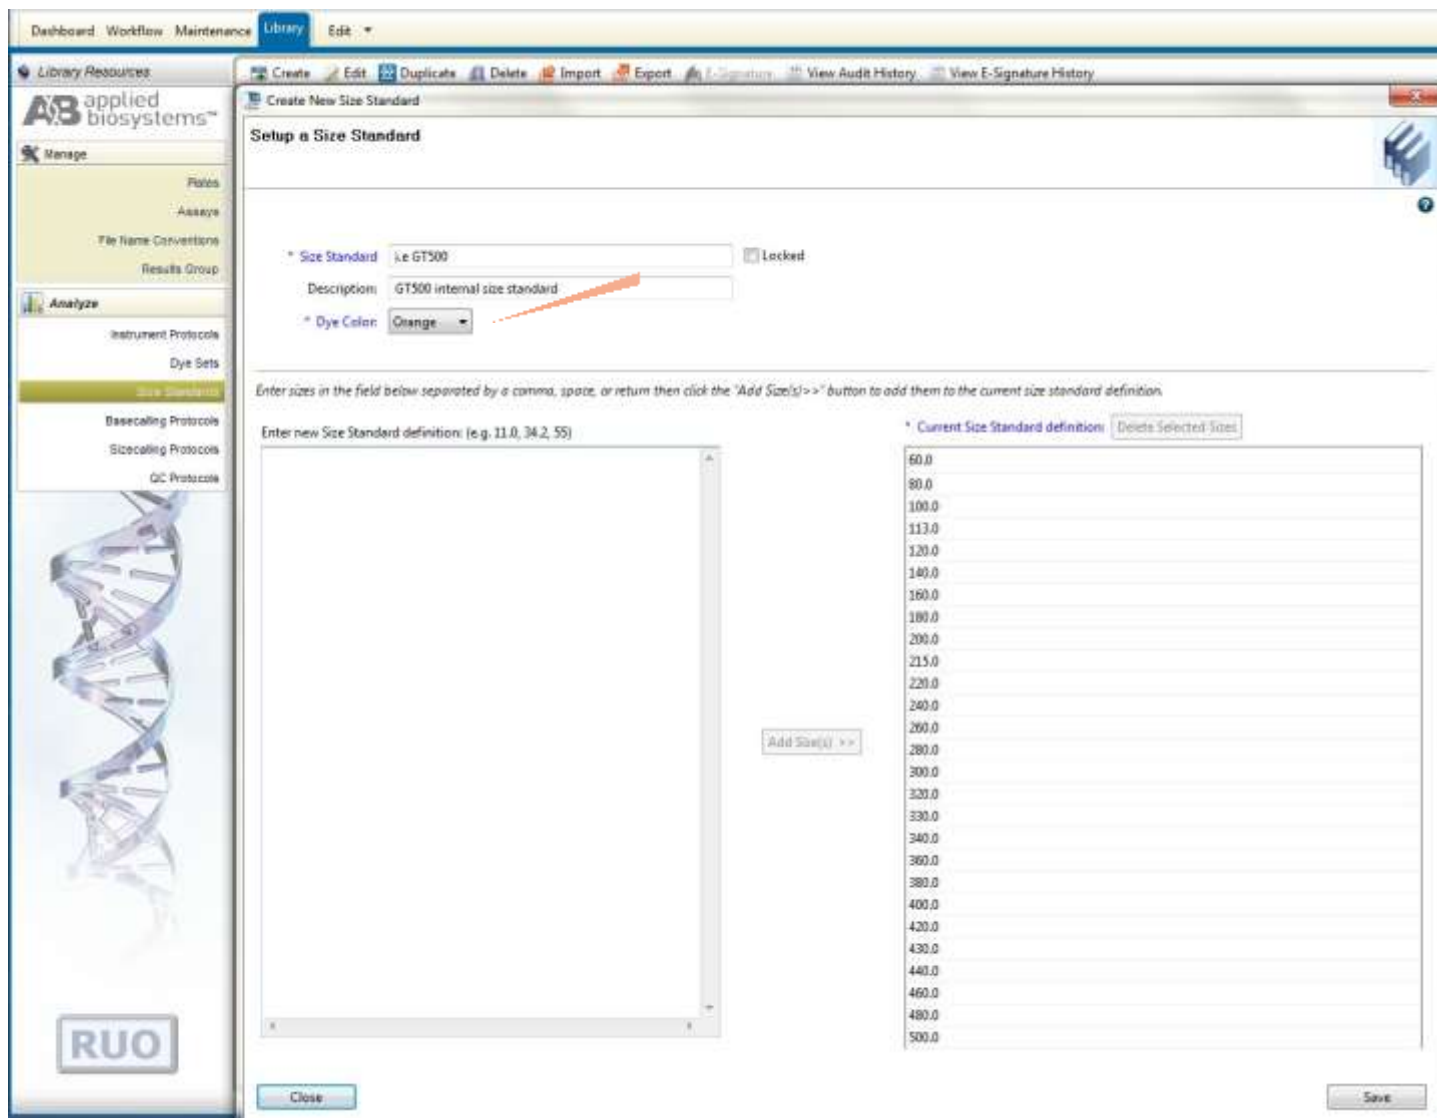

Figure 6. Screenshot for the “Create New Size Standard” window on Applied Biosystems 3500 Data Collection software
- c) Select “Create” (Figure 6)